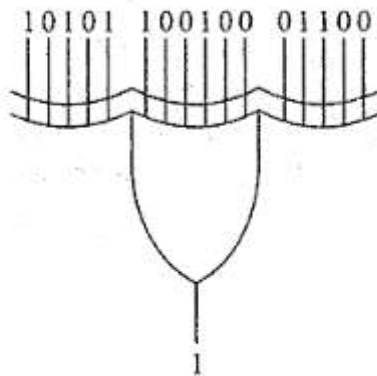

Fig. 4.33 Exclusive-OR gate with 16 inputs
- For instance, Fig. 4.33 shows a 16-input exclusive-OR gate. A 16-bit number drives the input. The exclusive-OR gate produces an output 1 because the input has odd parity (an odd number of 1s). If the 16-bit input changes to another.